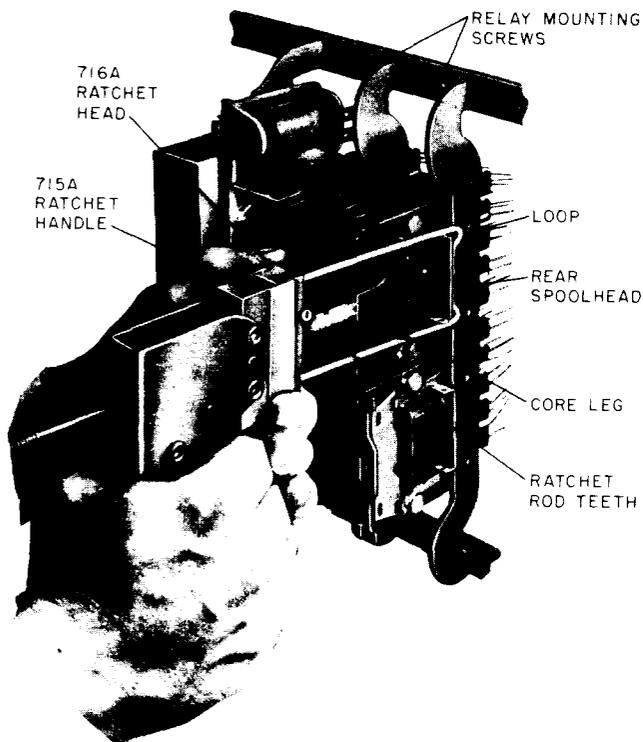

Fig. 16—Removing Coil With 716A Ratchet Head
- (3) Mount the 716A ratchet head on the 715A ratchet handle, as covered in 3.34(1).
- (4) Position the rod of the 715A ratchet handle so its end is approximately 3 inches from the end of the loop and the rod teeth are facing the trigger, as covered in 3.34(1).
- (5) Position the insulated loop of the 716A ratchet head behind the rear spoolhead of the coil with the end of the ratchet rod in line with and against the center leg of the core, as shown in Fig. 16. Make sure the straight vertical portion of the loop engages the rear spoolhead of the coil. Hold the tool with the rod horizontal and advance the rod by pulling the trigger until the coil is off the core leg.